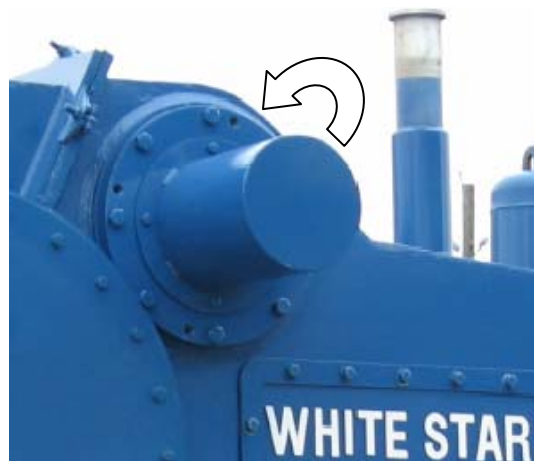

Fig. 1-3 Direction of Rotation
1. Be sure that the pump is set to rotate in the direction indicated by the arrow in the picture below the (Figure 1-3)